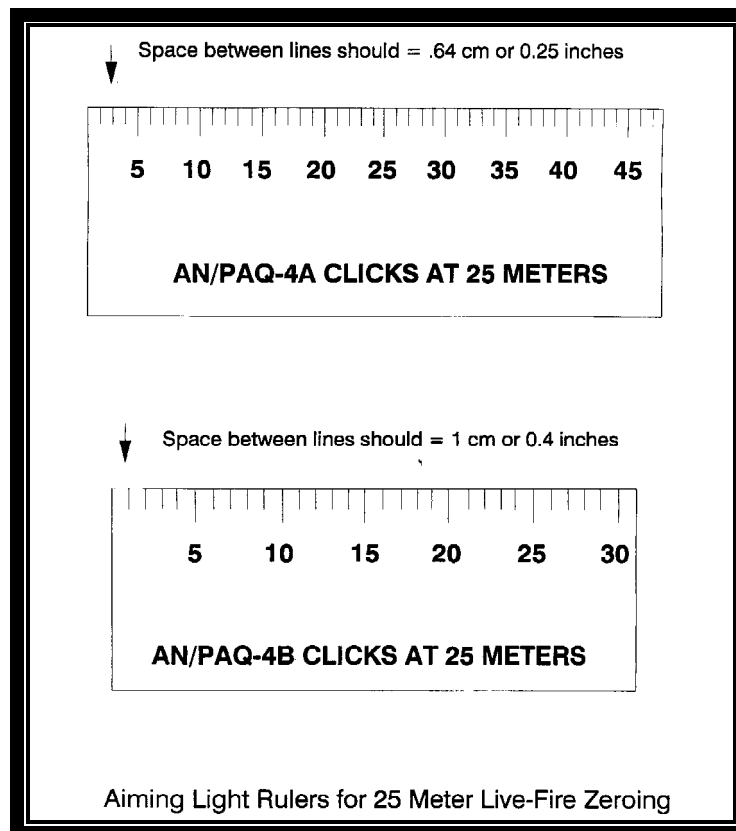

Figure 9
(4) **Ruler for aiming light adjustments.** The next step is to use a 12-inch ruler for determining the number of aiming light click adjustments for windage and elevation. **The vertical and horizontal lines on the M16A2 zero target cannot be used.** They do not correspond to the click size for the aiming light. Therefore, these lines cannot be used to determine the number of clicks to adjust the aiming light up or down and right or left. When zeroing the AN/PAQ-4A, 1/4" (.64 cm) on the ruler is equal to **1 click at 25 meters on the aiming light adjustment knobs, or 1" at 100 meters.** When zeroing the AN/PAQ-4C, 4/10" (1 cm) on the ruler is equal to **1 click at 25 meters on the aiming light adjustment knobs, or 1.6" at 100 meters.** Use the ruler to measure the horizontal and vertical distance from the unique impact point to the center of the shot group. During zeroing, place these rulers at each 25-meter target location. See Figure 9 (*Not to scale!*).